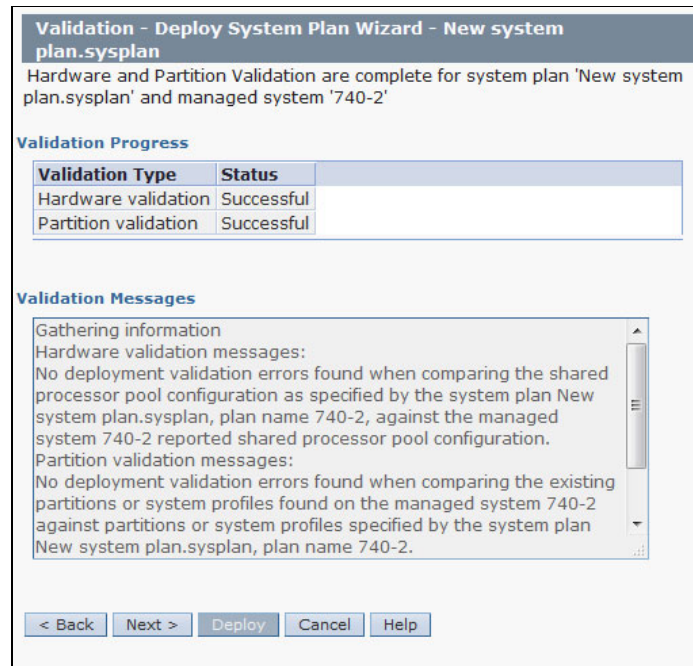

Figure 2-17 Example of successful validation
- When validation completes (Figure 2-17), you can examine all the related messages. You can view the messages that are successful and the messages that are unsuccessful.